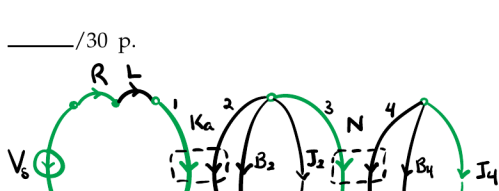

Figure exe.3: a linear graph model with normal tree in green of the electromechanical system of Exercise emech, with a gear reduction.
Consider the linear graph model (with normal tree) of Fig. exe.3. This is a model of a motor with constant K_m connected to a pair of meshing gears with transformer ratio N , the output over input gear ratio. An ideal voltage source drives the motor—modeled as an ideal transducer with armature resistance R and inductance L . The motor's rotational mechanical side (2) is connected to a moment of inertia J_2 modeling the rotor and drive gear combined inertia. The damping element B_2 models the internal motor damping and the drive gear bearing damping. The output side of the gear transducer (4) is connected to a moment of inertia J_4 modeling the output gear and load combined inertia. The damping element B_4 models the internal motor damping and the drive gear bearing damping. Use the parameter values given in Table exe.1.